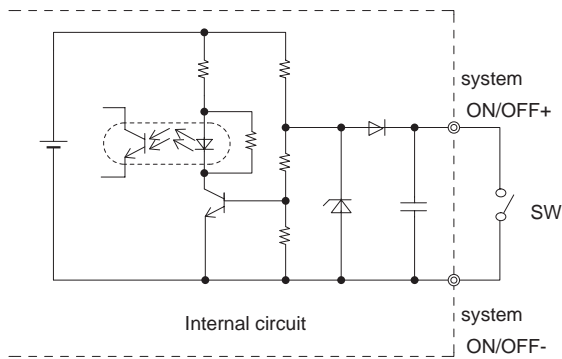

Fig.1.4 Example of System ON/OFF
- A connection example is on Figure1.4. Connector locations and pin assignment are shown on the external view.